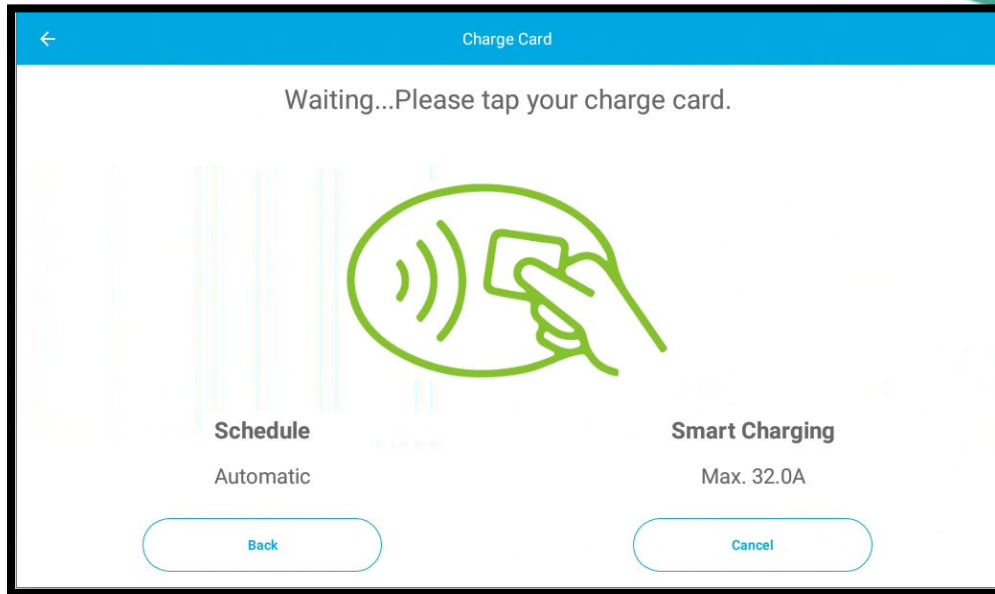

Figure 4.2 Wait for RFID Card Authorization Screen
- 2) **Waiting for charging authorization** screen appears after selecting the connector. This is the step where you authorize charging with an authorization method available to the charger (RFID card as example shown in **Figure 4.2**).